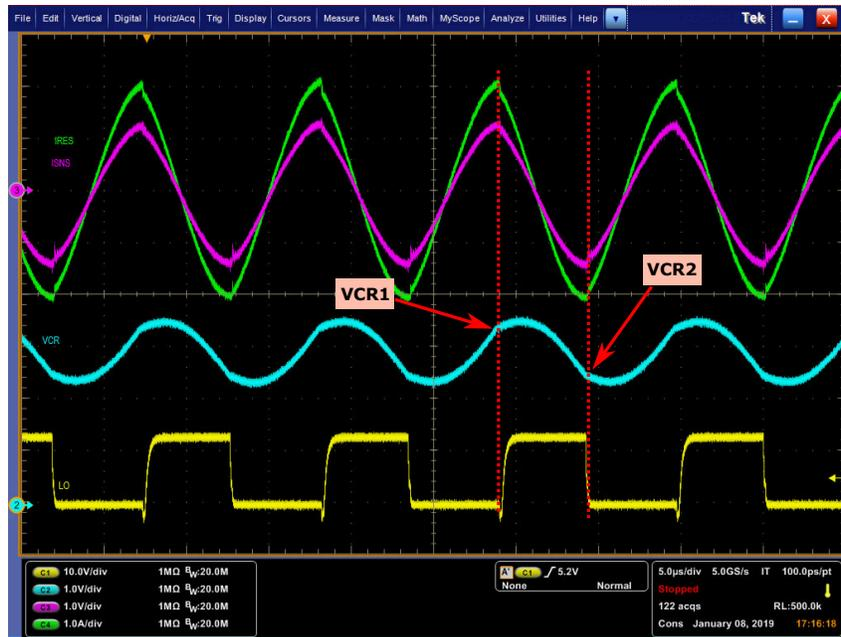

Figure 2-18. Ch1 – LO, Ch2 – VCR, Ch3 – ISNS, Ch4 – Resonant Inductor Current
- In Figure 2-18, an obvious transition can be noticed on VCR voltage at gate transition edges.